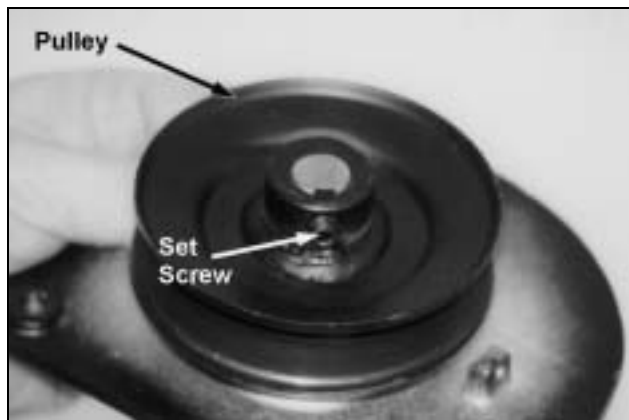
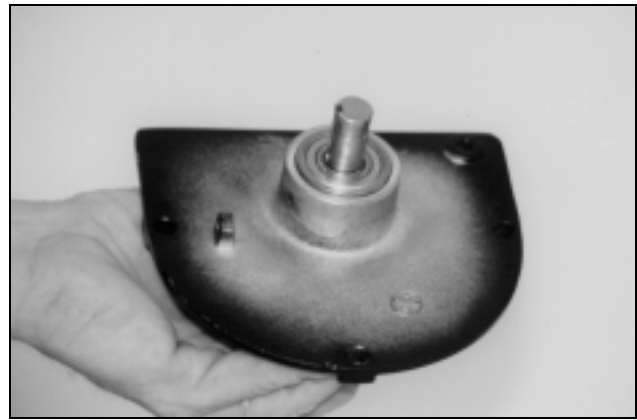

Figure 42
Figure 43
7. To remove the pulley (*Figure 42*), unscrew the set screw from the pulley with an Allen wrench. Then tap the pulley to loosen it from the shaft. Be careful not to hit the shaft, as it will expand and make the pulley harder to remove. Remove the pulley. You may need a pulley extractor.
1. On the new bearing housing (*Figure 43*), mount the pulley and key (*Figure 42*), leaving the shaft recessed about 1/16", and secure with the set screw. You may want to use Loctite[®] 242 to keep the set screw in place.